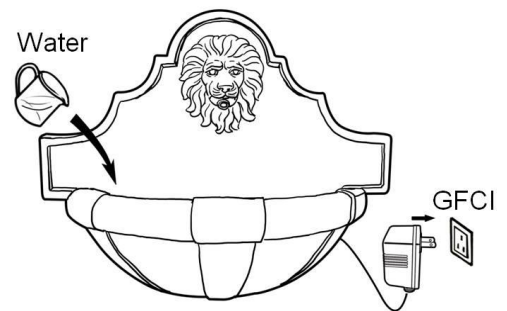

Fig. 2
4. Add clean water into the fountain. The water level should be approximately 1 in. / 25 mm lower than the edge of the basin. Connect the transformer to a GFCI outlet and the product will begin to function as intended. (Fig. 2)